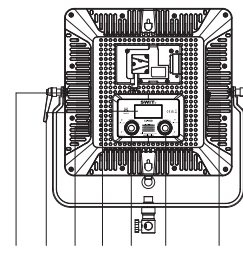

Fig.6 CL-60D
This product support battery and adaptor power supply, switch on the light (Fig.6 ⑩), set the require light parameter by brightness adjusting knob (Fig.6 ⑧), color temperature adjusting knob (Fig.6 ⑨), then use normally.
This product support two color temperature and brightness adjusting mode: General adjusting mode. Fast adjusting mode. Press brightness/color temperature adjusting knob (Fig.6 ⑧/⑨) to change the adjusting mode the user can set the brightness/color temperature quickly by combining the two adjustment modes according to the usage demand.
Long pressing the brightness adjusting button (Fig.6 ⑧) about 2s to enter in communication address setting interface, communication address range: 001-512.
LCD digital tube field (Fig.8 ④) flashing indicates that the current bit is selected, rotate the brightness adjustment knob (Fig.6 ⑧) to
set the current bit, press the brightness adjustment knob (Fig.6 ⑧) to determine the setting of the current bit and go to the next bit, when the setting of the last bit is completed, press the brightness adjustment knob (Fig.6 ⑧) or wait for about 5 s, to exit the setting of the communication address.
Through the DMX line of the lamp network, long press color temperature adjustment knob (Fig.6 ⑨) about 2 s, to complete the lamp communication control mode setting.